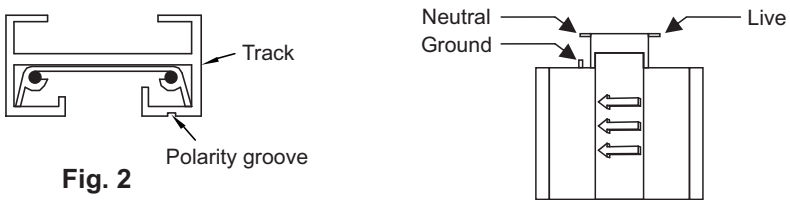

Fig. 2
2. Note the track has a groove running its length to indicate polarity (**Fig. 2**).